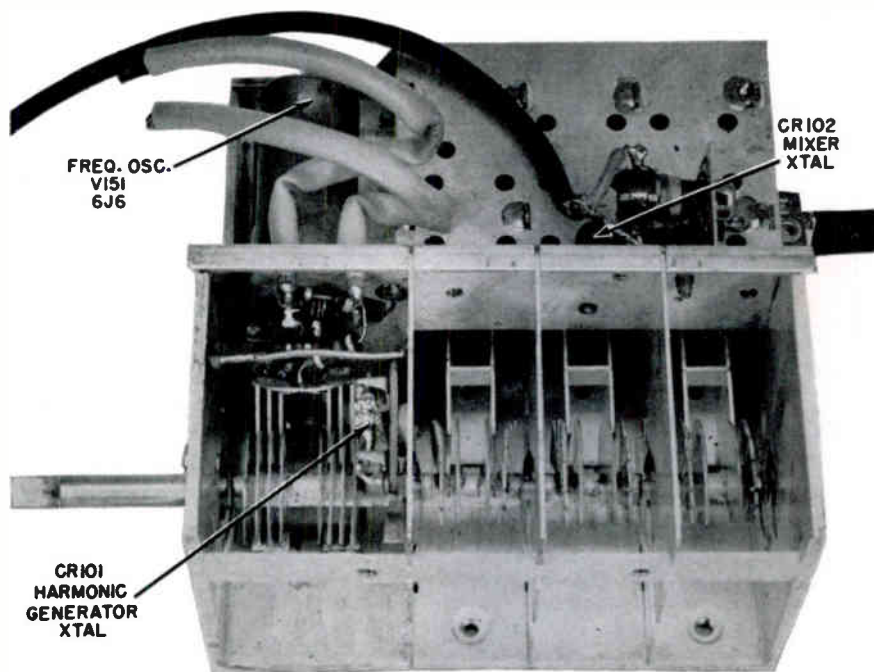

Figure A-1. Du Mont UHF tuner with shields removed, showing the location of the mixer and harmonic-generator crystals.
3. Check the harmonic generator and mixer crystals by substitution. The crystal locations are shown in figure A-1. If a faulty crystal is found, try several crystals and use the one which gives the best results. The crystal which gives the most output can be found by connecting a VTVM between the AGC test point and ground, and noting the a-g-c voltage as each crystal is inserted. The one giving the